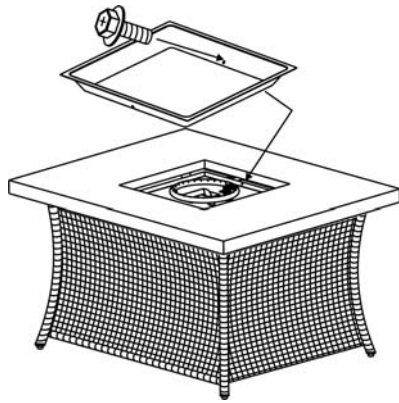

Figure 5
3. Place the burner pan protective ring into the firepan/burner assembly as shown in Figure 5. Align the holes in the burner pan protective ring with the pre-drilled holes on the firepan/burner assembly. Secure the burner pan protective ring to the firepan/burner assembly by using the three M4 screws as shown in Figure 5.